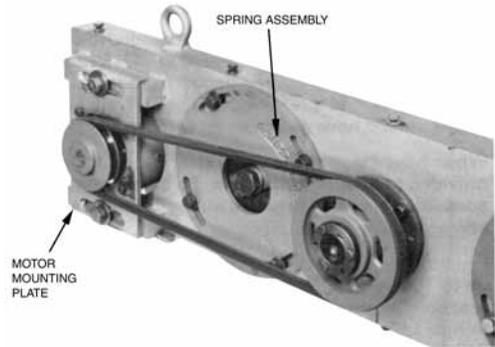

FIGURE 5
1. Loosen motor plate mounting bolts (Figure 5).